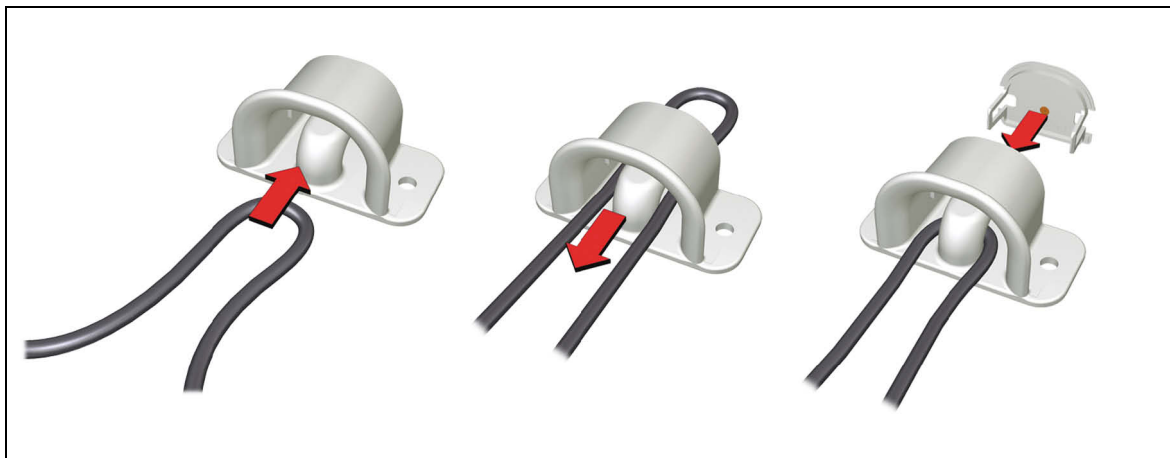

Figure 10 Routing the connecting cable through the mounted cable grip
- 1 Take a loop of the connecting cable and guide it through the strain relief cable grip, as shown in Figure 10.